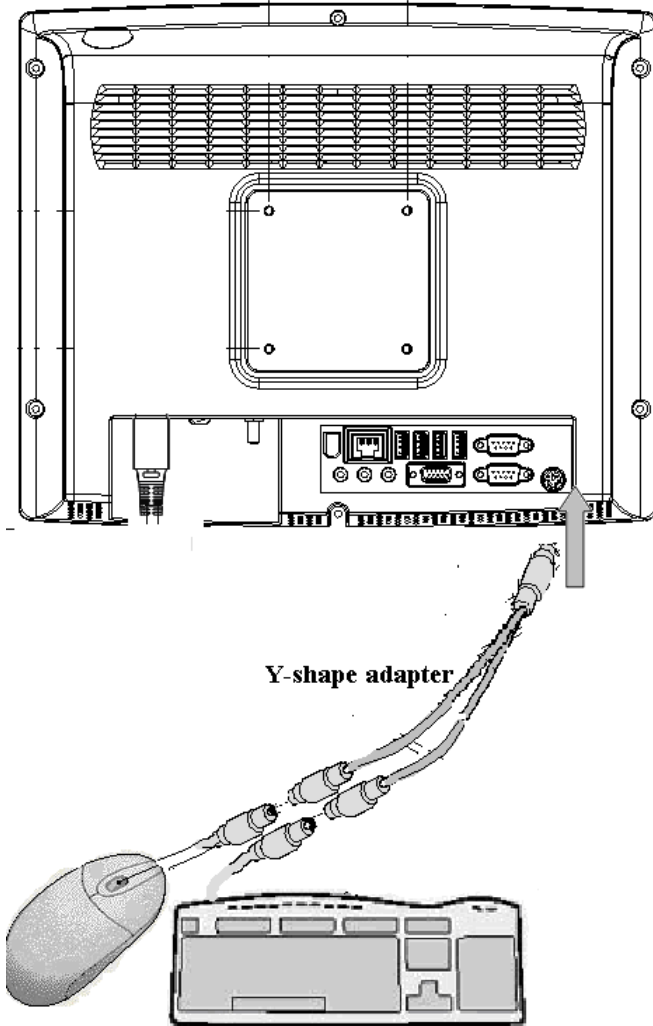

Figure 2.4: Connecting the mouse and keyboard
1. Connect the Y-shaped adapter to the PS/2 mouse and keyboard port on the I/O section of the POC-125. (See Figure 2-4.)
2. Connect the PS/2 mouse and keyboard to the Y-shaped adapter. (See Figure 2-4.)